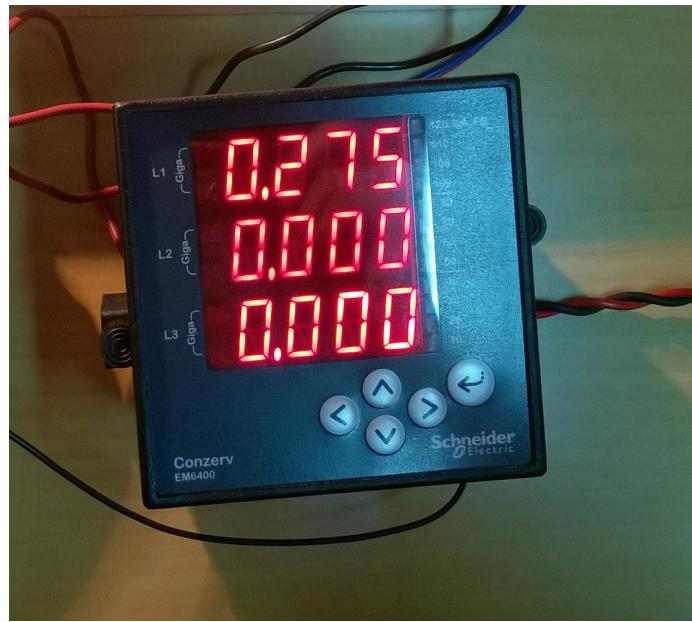

Figure 11.9: Single phase current output in energy meter
1. Single phase current output: Fig. 11.8 and Fig. 11.9 show Scilab code output of current in Amperes and corresponding snapshot of energy meter display with